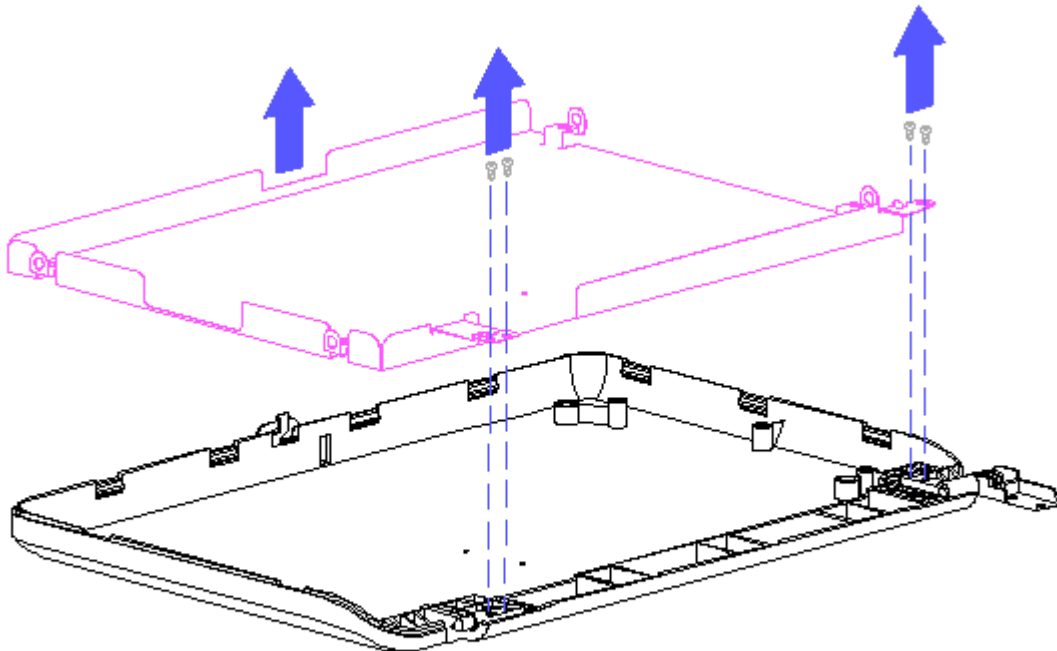

Figure 3-34. Removing the Display Shield
2. Using a Phillips screwdriver, remove the screws from the clutch and the pin (Figure 3-34).
3. Lift the display shield out of the display enclosure (Figure 3-34).